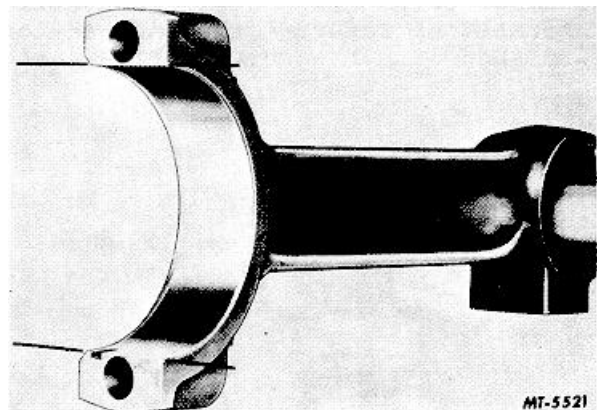

Fig. 88
- (4) Straightness: The connecting rod bore taper should not exceed .013 mm (.0005") (Fig. 88).